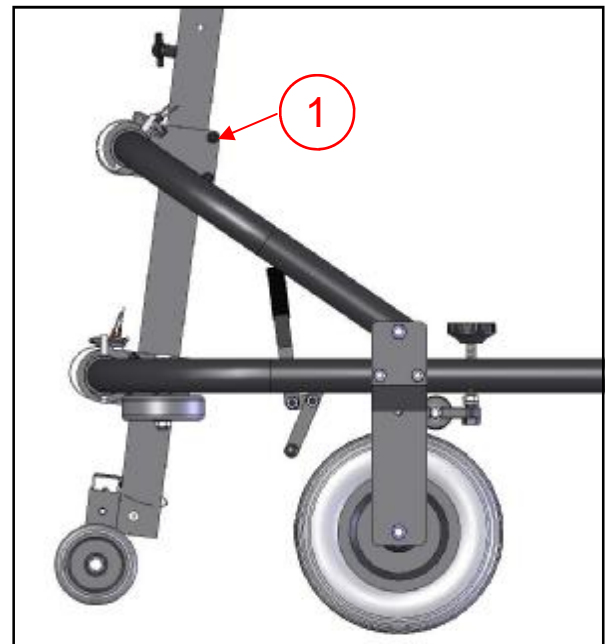
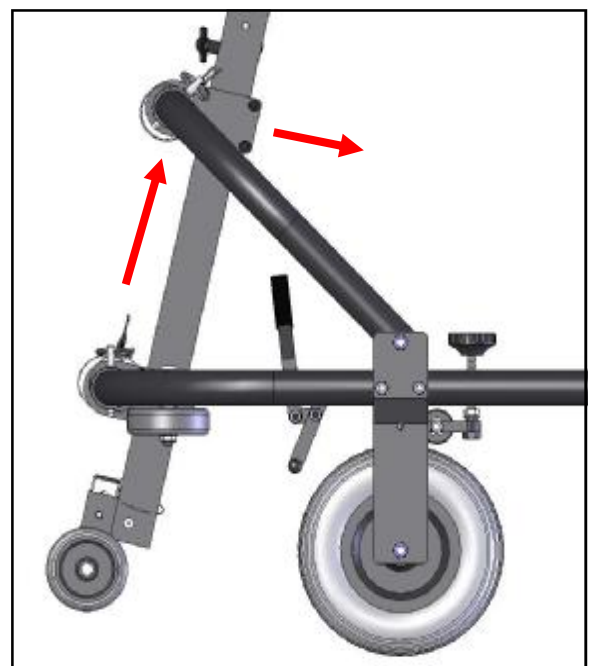

Figure 10
Figure 10A
2. If more pitch is needed, the rear column can be tilted forward. Loosen the 4 Allen screws on the upper tube clamp assembly (Fig 10). Raise the upper clamp assembly and frame brace while tilting the column forward (Fig 10A). When the desired angle is achieved tighten the Allen screws to secure the column. Note: lowering the upper tube clamp assembly will tilt the column back upright.